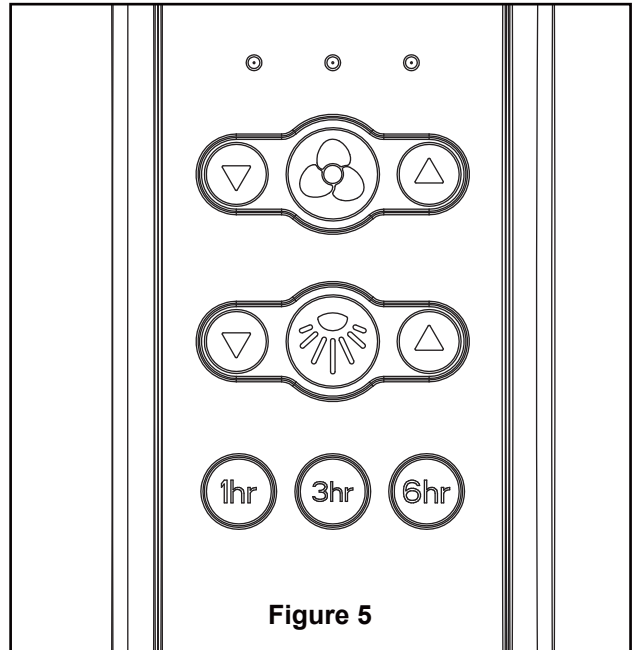

Figure 5
4. After connections have been made, the wires should be spread apart with the grounded conductor and the equipment-grounding conductor on one side of the outlet box and the ungrounded conductor on the other side of the outlet box, then turn leads upward and carefully push leads into the outlet box, with the white and green leads to one side of the box and the black leads to the other side. (Figure 5)
5. Assemble the light plate/LED assembly to the switch housing assembly using the two key slots. Replace the removed screw and secure all three screws. (Figure 5)
### 5. Remote functions: (Figure 5)